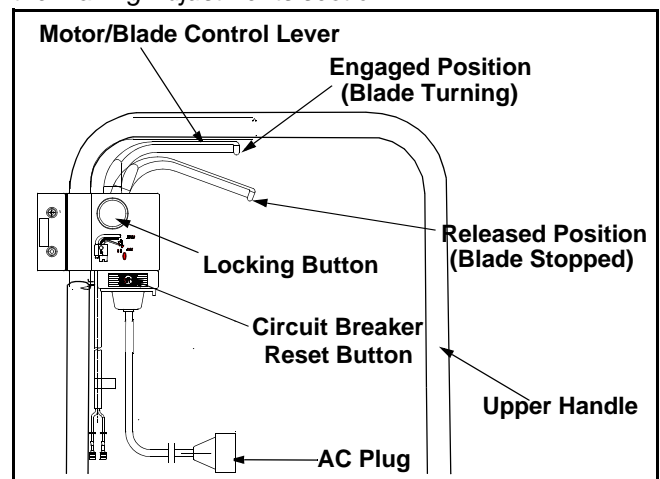

Figure 11
To engage the motor and blade, first be certain to follow the previous steps for connecting a suitable extension cord, then referring to Figure 11:
The mower is equipped with a circuit breaker, located on the motor/blade control assembly as shown in Figure 11. This circuit breaker may trip when too much strain is placed on the mower. The circuit breaker may have been tripped if the mower will not run.
- If this occurs, unplug the mower, wait approximately five minutes, then depress the reset button. Refer to Figure 11.